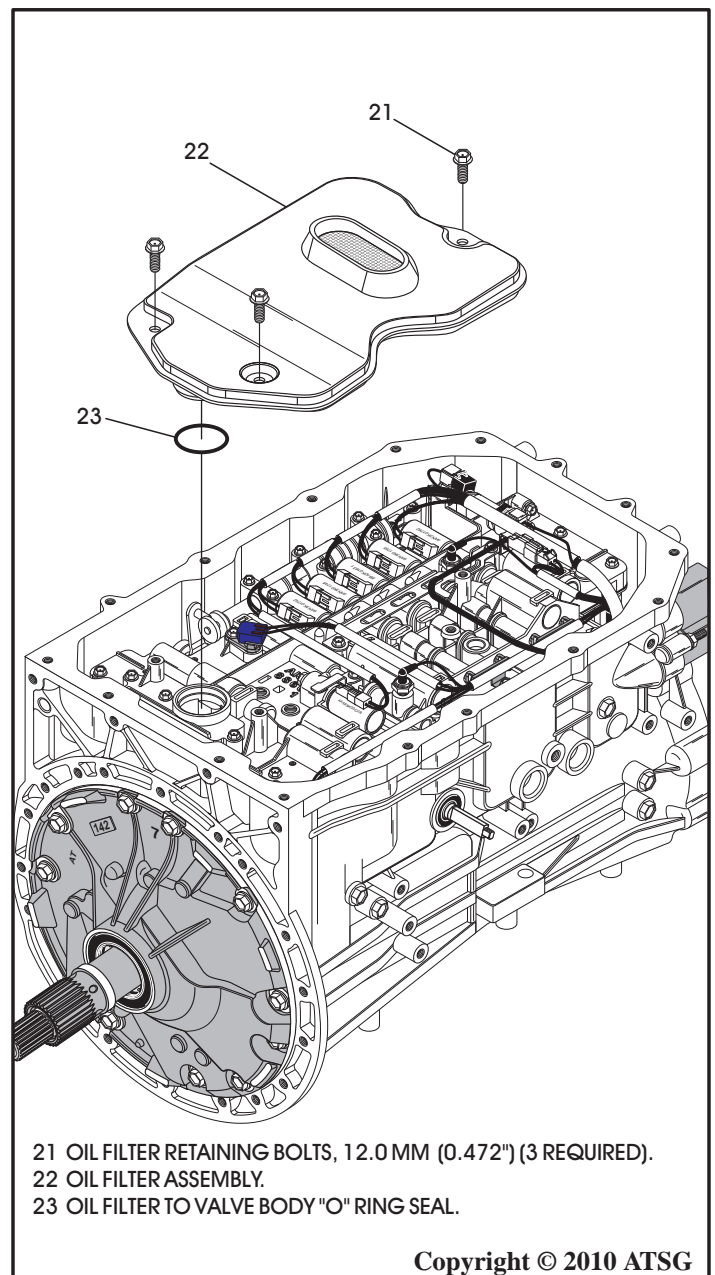

Figure 46
16. Remove the 3 filter retaining bolts and the oil filter, as shown in Figure 46.
17. Remove and discard the oil filter to valve body "O" ring seal, as shown in Figure 46.